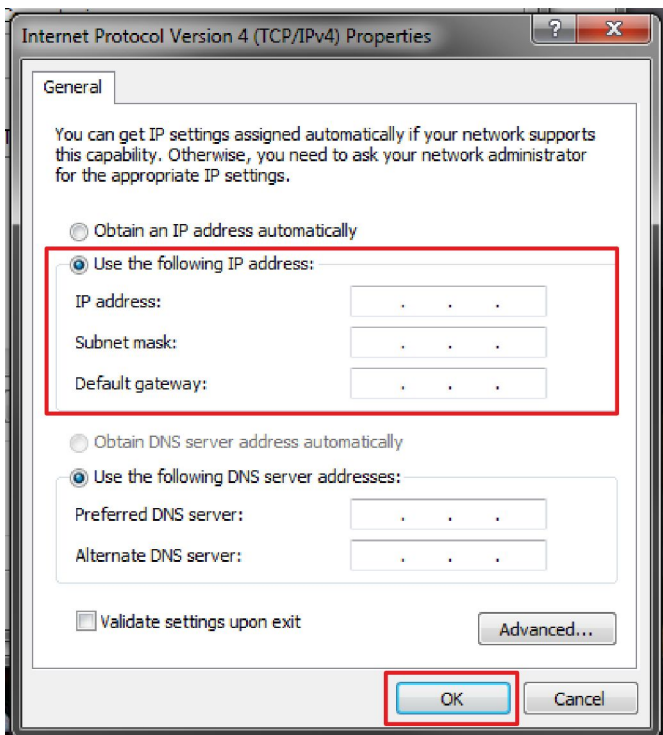

Fig. 46: Internet protocol version 4 (TCP/IPv4) properties
7. ▶ Select the 'Use the following IP address:' (Fig. 46) option, enter the IP address, subnet mask and default gateway and confirm with 'OK'.